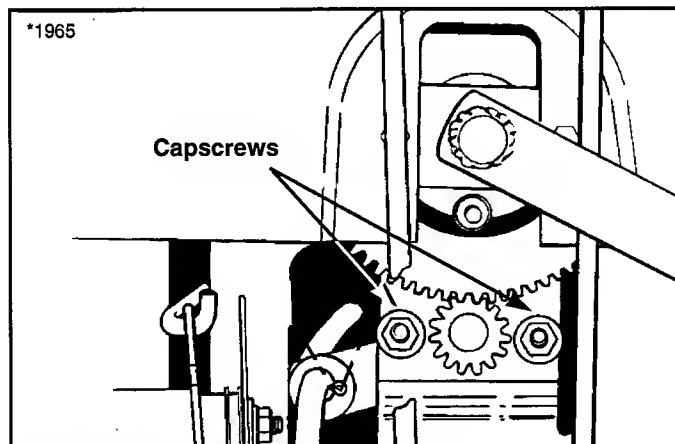

Figure 32. Steering Gear Adjustment
1. See Figure 32. Loosen the two capscrews and adjust the bracket so the gear teeth are closely meshed.